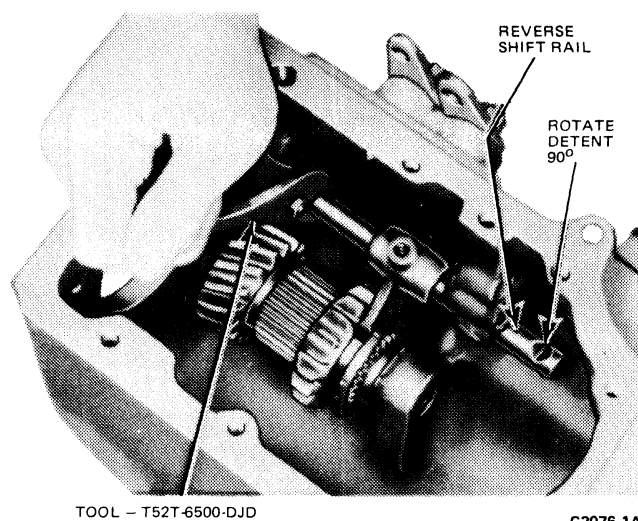

FIG. 11 Rotating Reverse Shift Rail
19. Remove the reverse gear shift fork set screw. Rotate the reverse shift rail 90 degrees as shown in Fig. 11. Slide the shift rail out of the rear of the case. Lift the reverse shift fork from the case.